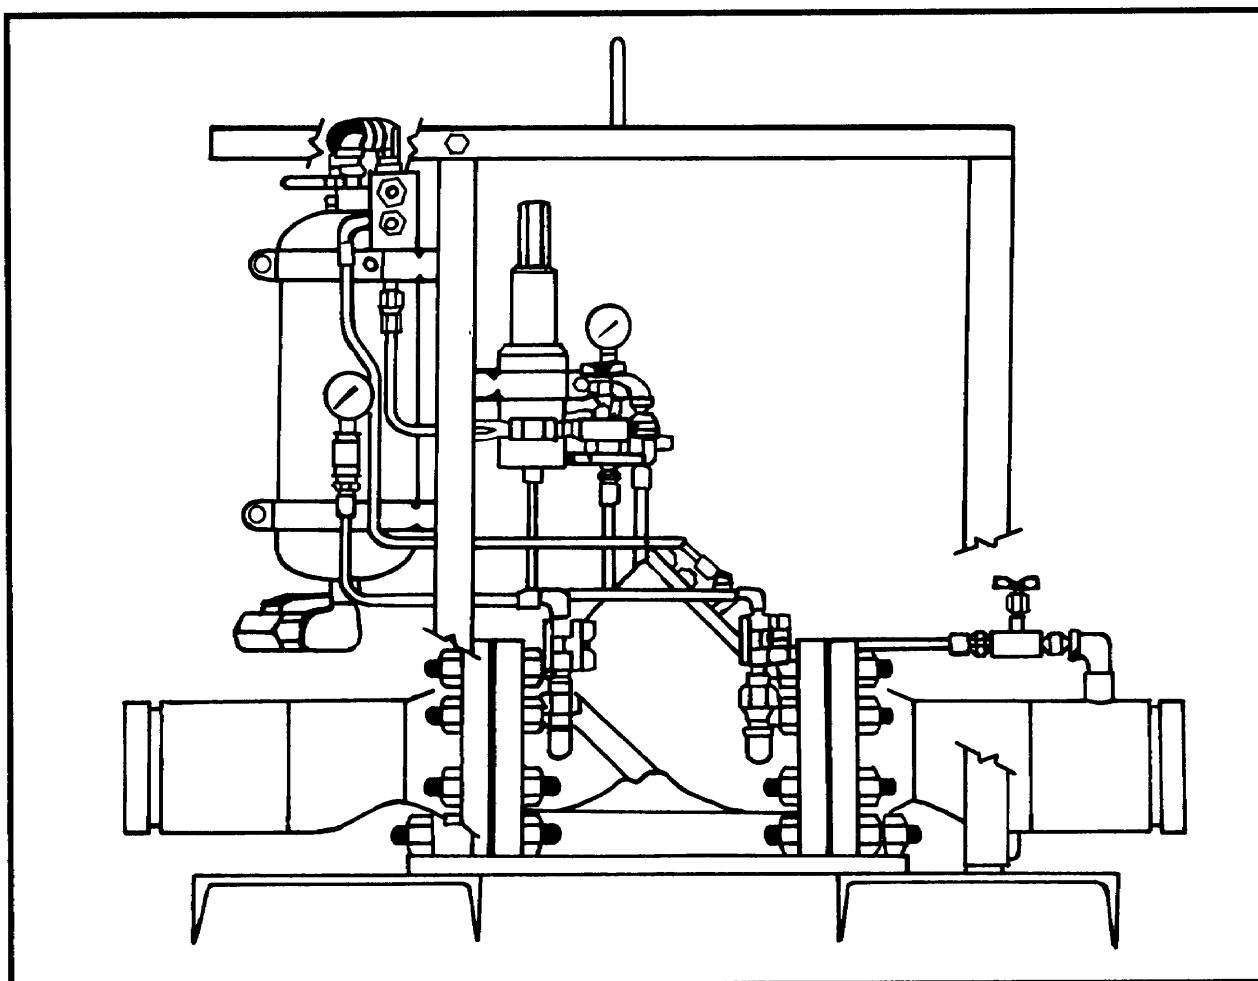

Figure 2-9. Pressure-regulating valve
(7) Pressure-Regulating Valve (Figure 2-9). This valve--